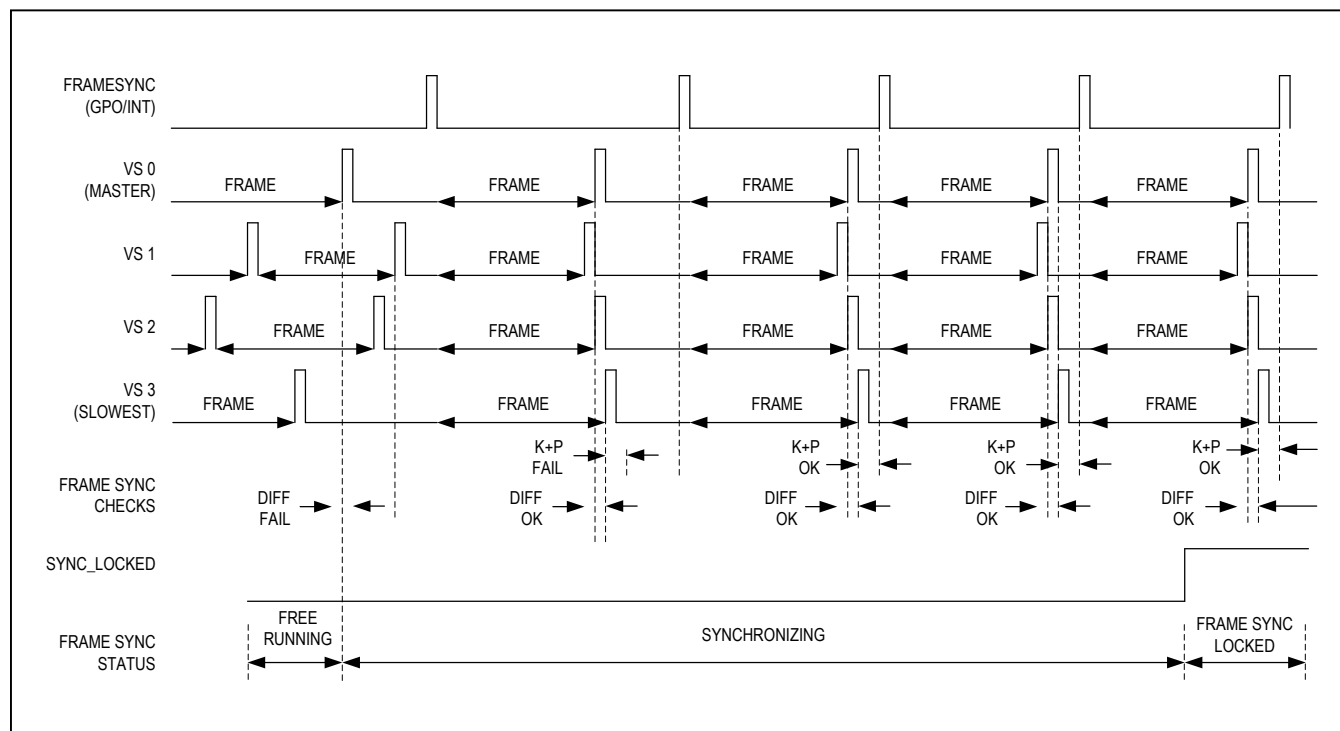

Figure 46. Example Frame Sync Operation (Automatic Mode)
- **Automatic Mode (FSYNCMETH = 1X) (Figure 46)**